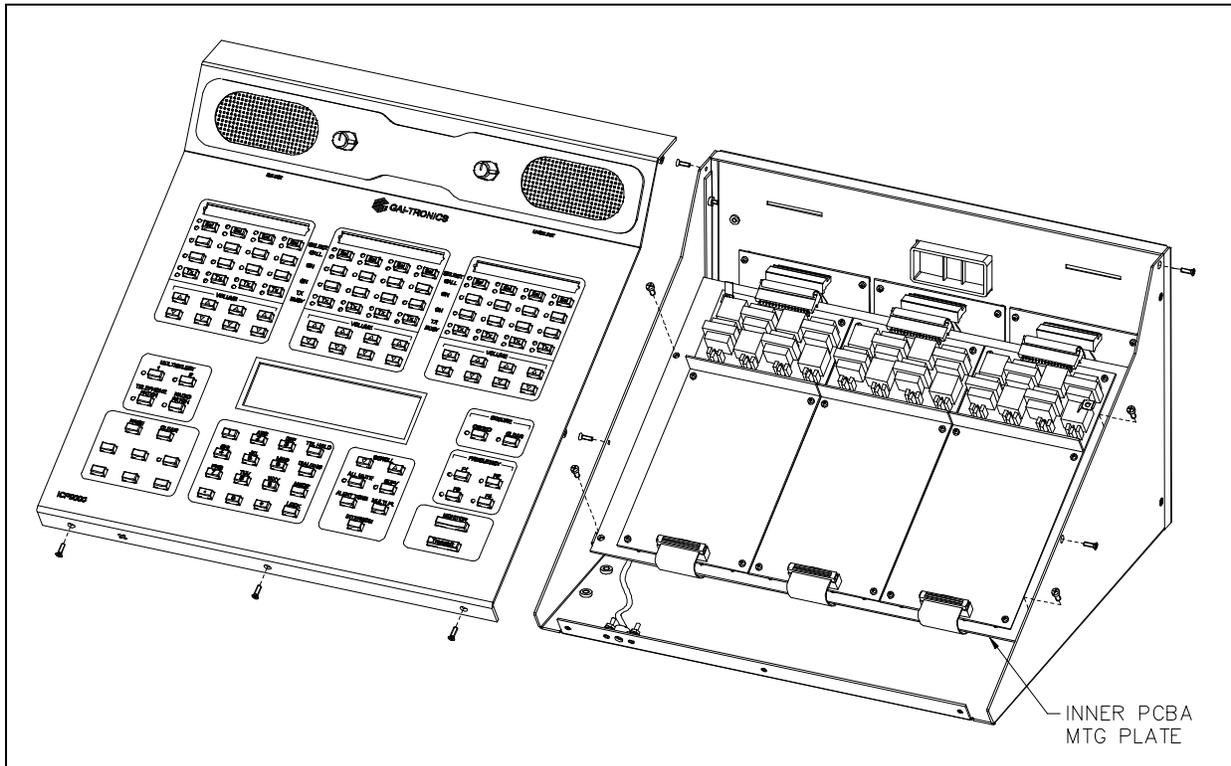

Figure 1.
2. Remove the 7 screws securing the top panel and gently lift the cover exposing the attached speaker cable and master display cable. See Figure 1 on page 2.
4. Disconnect all plugs attached to the inner PC board mounting plate. See Figure 1. Then remove the 4 screws attaching the mounting plate to the base. This allows you to remove the mounting plate.